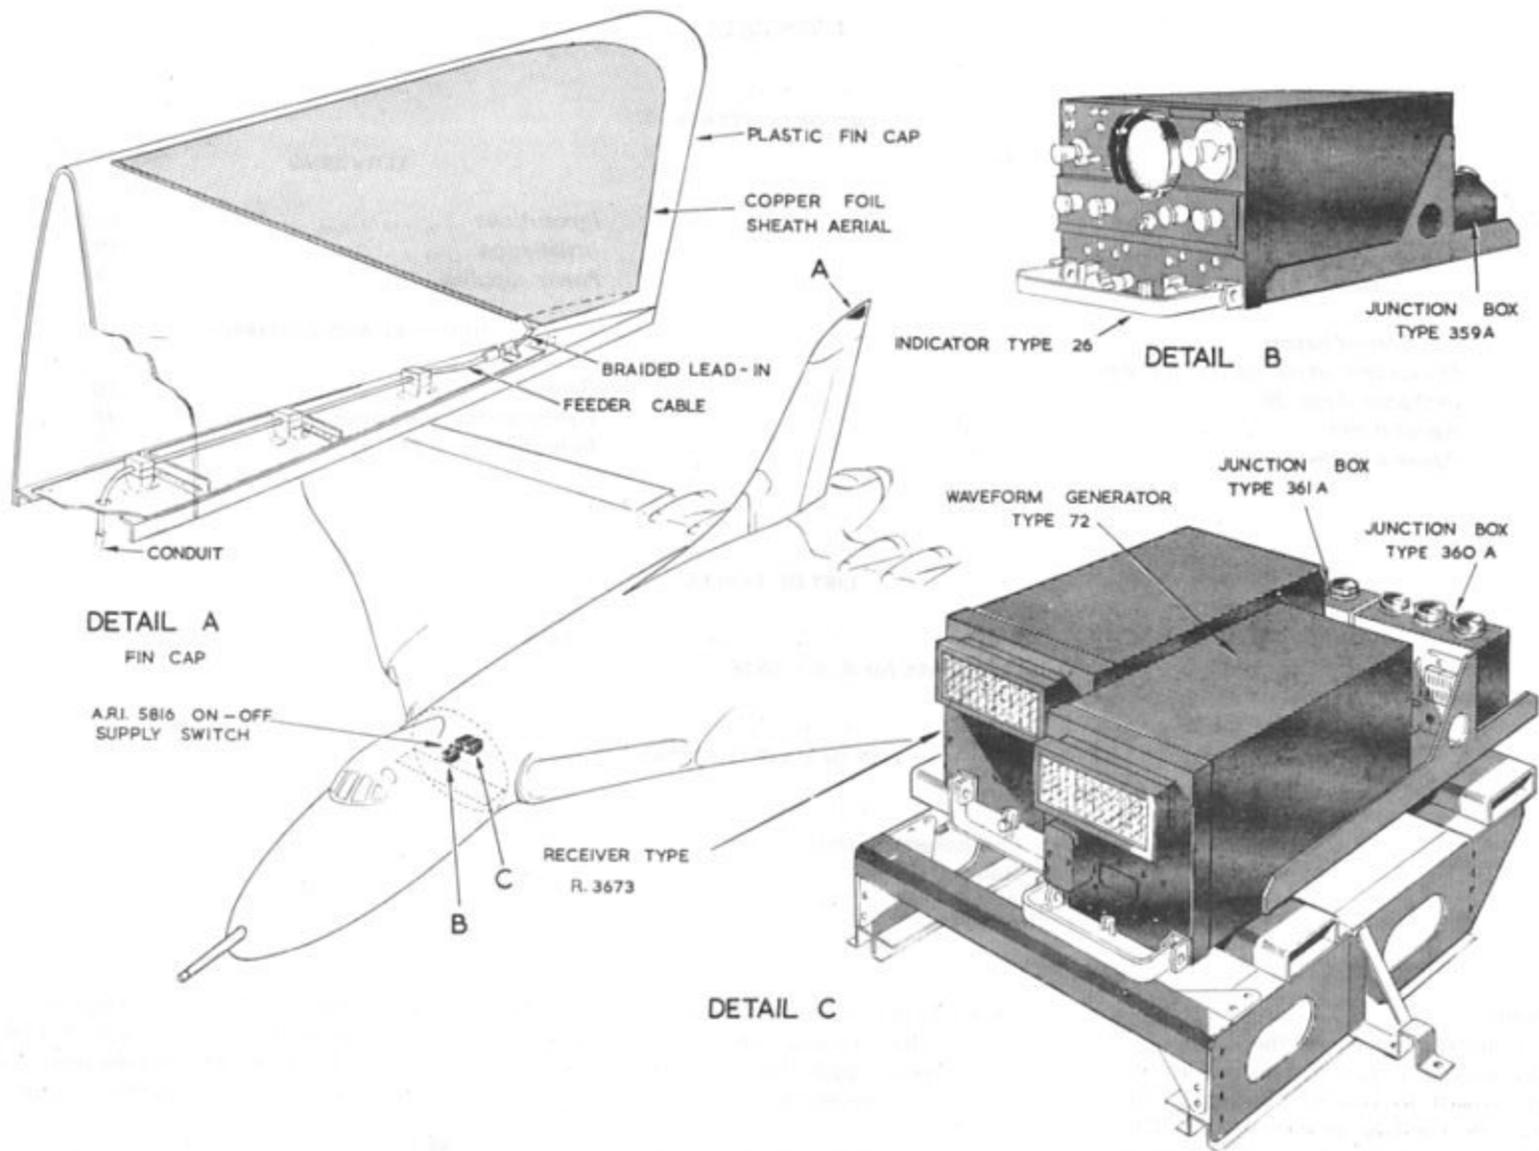

Fig. 1 Component location
3. A location diagram of the major components is provided in fig.1. A connector table is contained at the end of the text and a routing chart will be found at the end of the chapter.